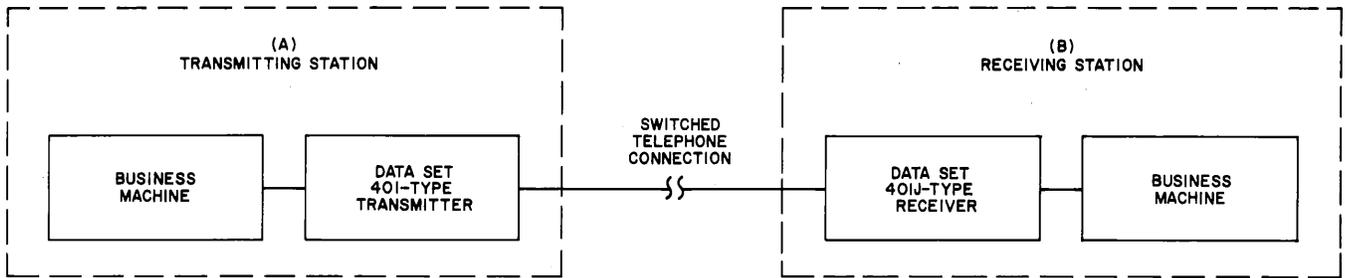

Fig. 9—Data Set 401J-Type Operation Arrangement (Block Diagram)
3.03 The operation of the data set is divided into two categories, unattended and attended. The typical arrangement of the data set for use in either category of operation is shown in Fig. 9.
1	Connection is established between the transmitting station and the receiving station (Fig. 9).